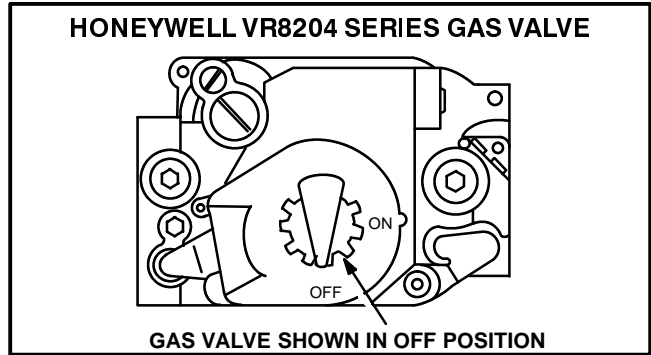

FIGURE 3
Gas Valve Operation (Figures 3 and 4)
- 6- *Honeywell VR8204 Gas Valve* - Turn the knob on the gas valve clockwise  to **OFF**. See figure 3.